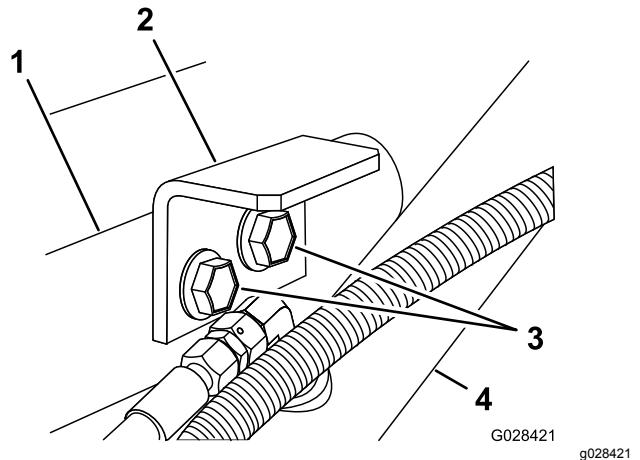

Figure 9
3. Assemble the hold-down brackets to support bracket and frame the using the 2 flanged-head bolt and flange locknut removed in step 1 (Figure 9).